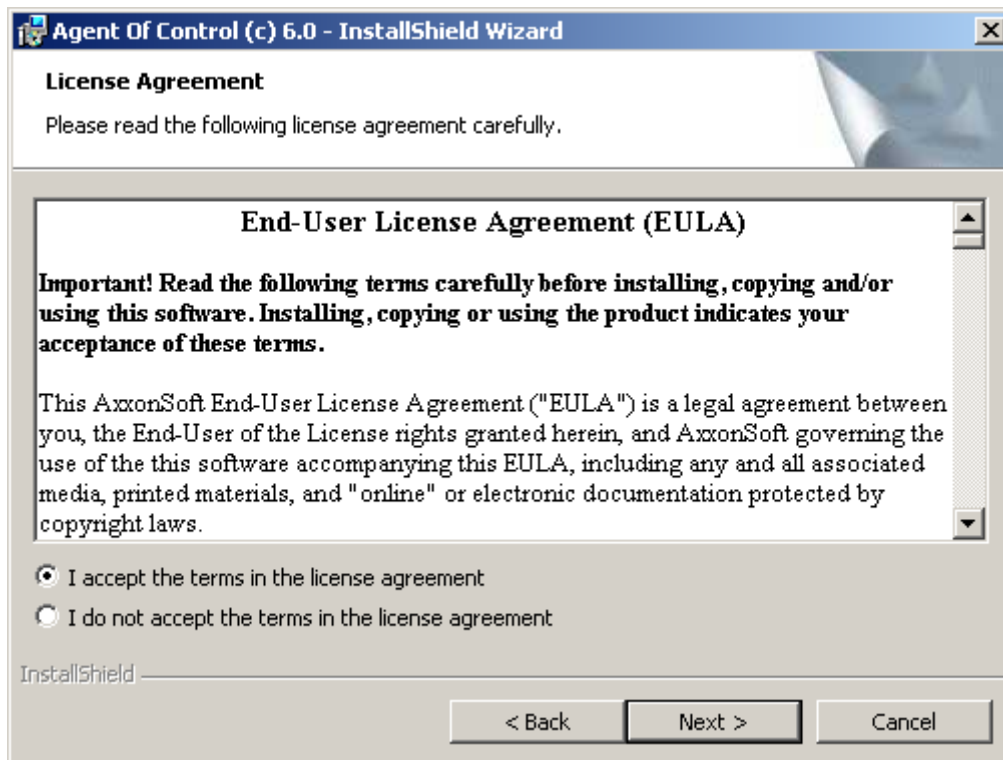

Fig. 3.3 – 3 License Agreement
4. In the window that appears, select the most appropriate installation type (Fig. 3.3 – 4). If Intellect is installed as a service, select the **Install Agent of Control (c) 4.8.3 as a service** check box. The ITV Monitoring VRecover service will be configured and added to the system. Otherwise, clear the check box.